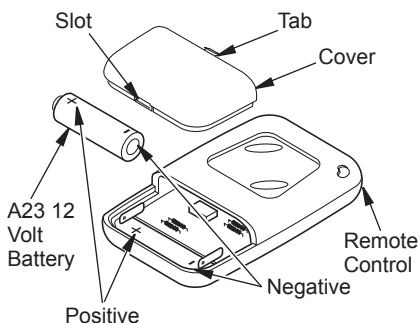

Figure 35 - Installing Battery
1. Locate slot at bottom of remote control (see Figure 35). Firmly insert tool such as a small screwdriver, butter knife, or dime into the slot and lift up to remove cover.